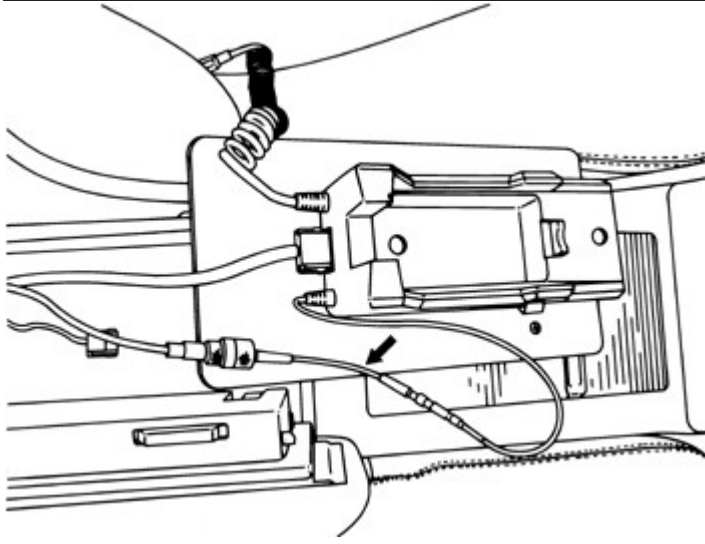

Figure 7
10. Connect antenna adapter cable (arrow, Figure 7) between antenna harness and pigtail on back of charger-holder. Connect harness labeled PORTABLE PHONE to